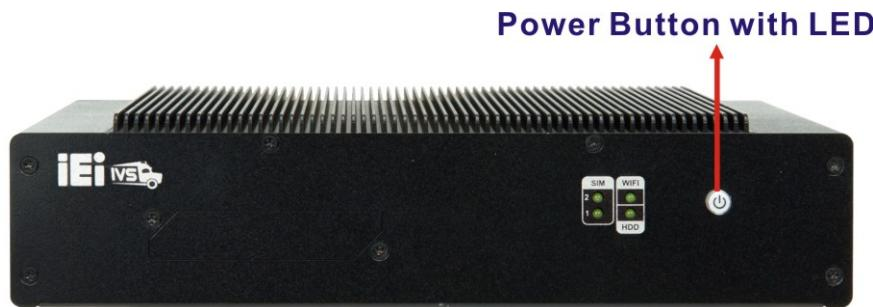

Figure 3-21: Power Button
Step 2: Push the power button for several seconds until the power LED turns from amber to blue (**Figure 3-21**).